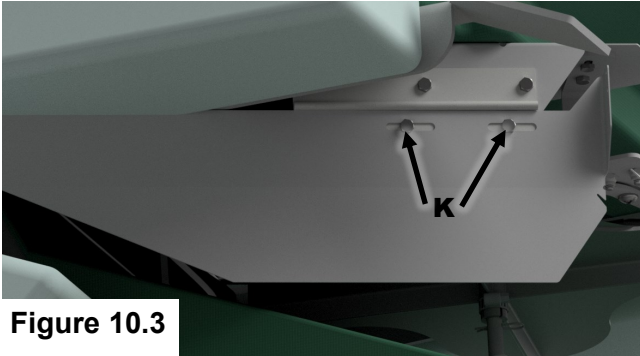

Figure 10.3
- Referring to FIGURE 10.3. The deflector should stop the spread pattern at the outside edge of the right tire.
- To adjust the pattern, loosen bolts (K).